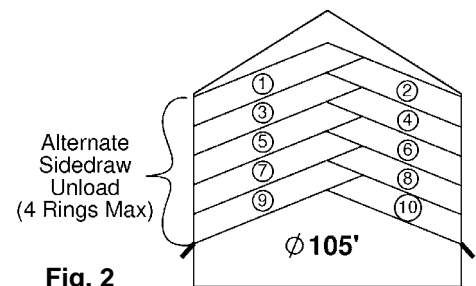

Fig. 2
- Sukup Manufacturing Co. recommends alternate usage of sidedraws in bins 105' in diameter to reduce structural stress on bin. It is best to unload no more than four (4) rings of grain before switching to other sidedraw. See Fig. 2 as a guide.